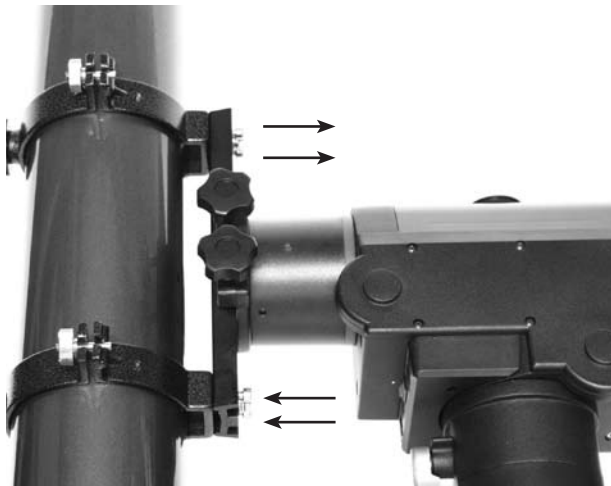
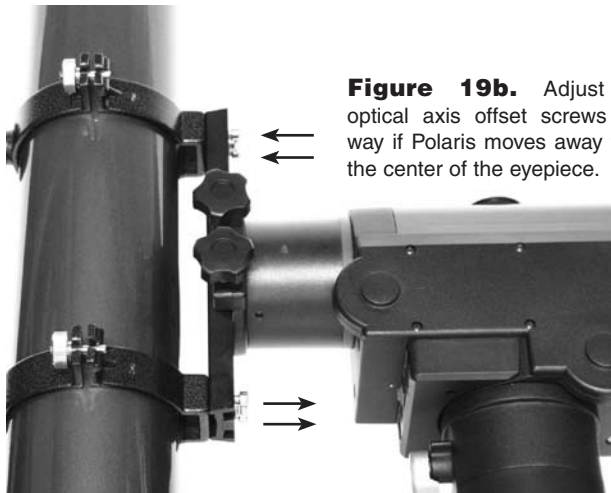
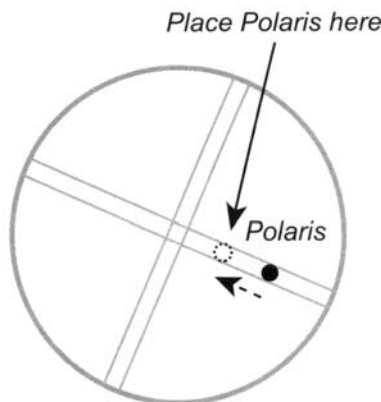

Figure 19a. Adjust the optical axis offset screws this way if Polaris moves toward the center of the eyepiece when the tube is pushed as in Figure 18.
Figure 19b. Adjust the optical axis offset screws this way if Polaris moves away from the center of the eyepiece.
Figure 20. Using the optical axis offset screws move Polaris halfway to the eyepiece's center.
13. Make adjustments to the optical axis offset adjustment screws (the socket head cap screws located at each corner of the mounting plate, see Figure 3) according to the results of step 11. If Polaris moves toward the center when the telescope is pushed as indicated in Figure 18, loosen the adjustment screws near the front of the tube and tighten the adjustment screws closer to the back of the tube (Figure 19a). If Polaris moves away from the center when the telescope is pushed as in Figure 18, loosen the adjustment screws near the back of the tube and tighten the adjustment screws closer to the front of the tube (Figure 19b). Look into the eyepiece. Adjust the adjustment screws just enough to place Polaris HALF the distance back to the center of the illuminated reticle eyepiece (Figure 20).